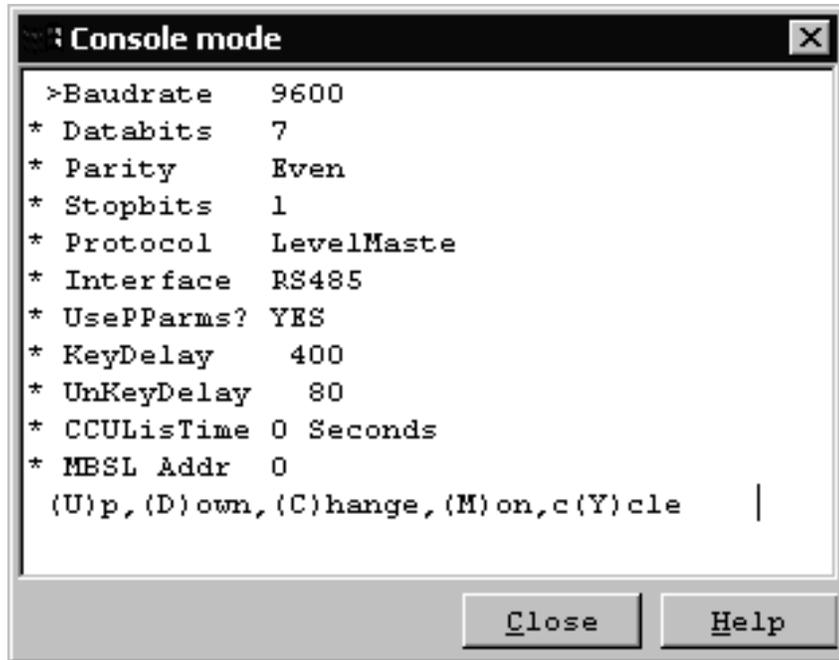

Figure 3–5 Console Mode, Satellite Port Setup
- 10) Select the *Satellite Port Configuration (SatPCfg)* group by entering the number 9. See Figure 3–5 Console Mode, Satellite Port Setup.
- 11) Figure 3–5 Console Mode, Satellite Port Setup shows the typical setup to communicate with the LevelMaster. See Table 3—5 RTU Communication Port Parameters for the communication port parameters.